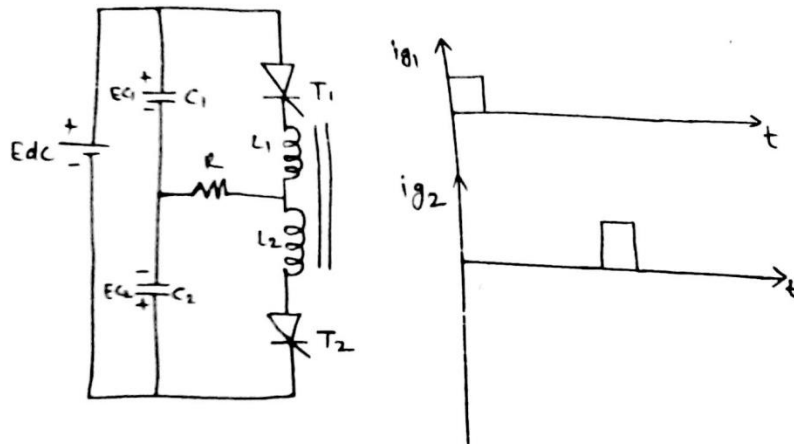

Fig. No. 2
- 4 b) i) Draw waveforms of the following power electronic circuit for gate pulses shown in Fig. No. 2 indicate load voltage, current, capacitor voltage.
The circuit shown in Fig. No. 2 is **Half-bridge, Series Resonant Inverter**.